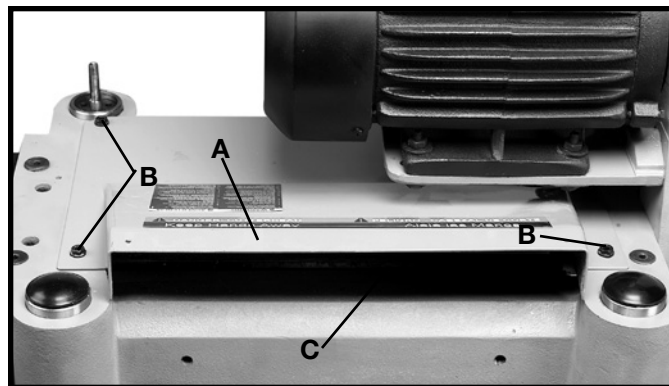

Fig. 16
1. Fasten the top cover and dust chute (A) Fig. 16, to the top of the planer, as shown, using the three M6x16mm screws (B) supplied. **IMPORTANT:** The dust chute opening (C) must point to the rear as shown.